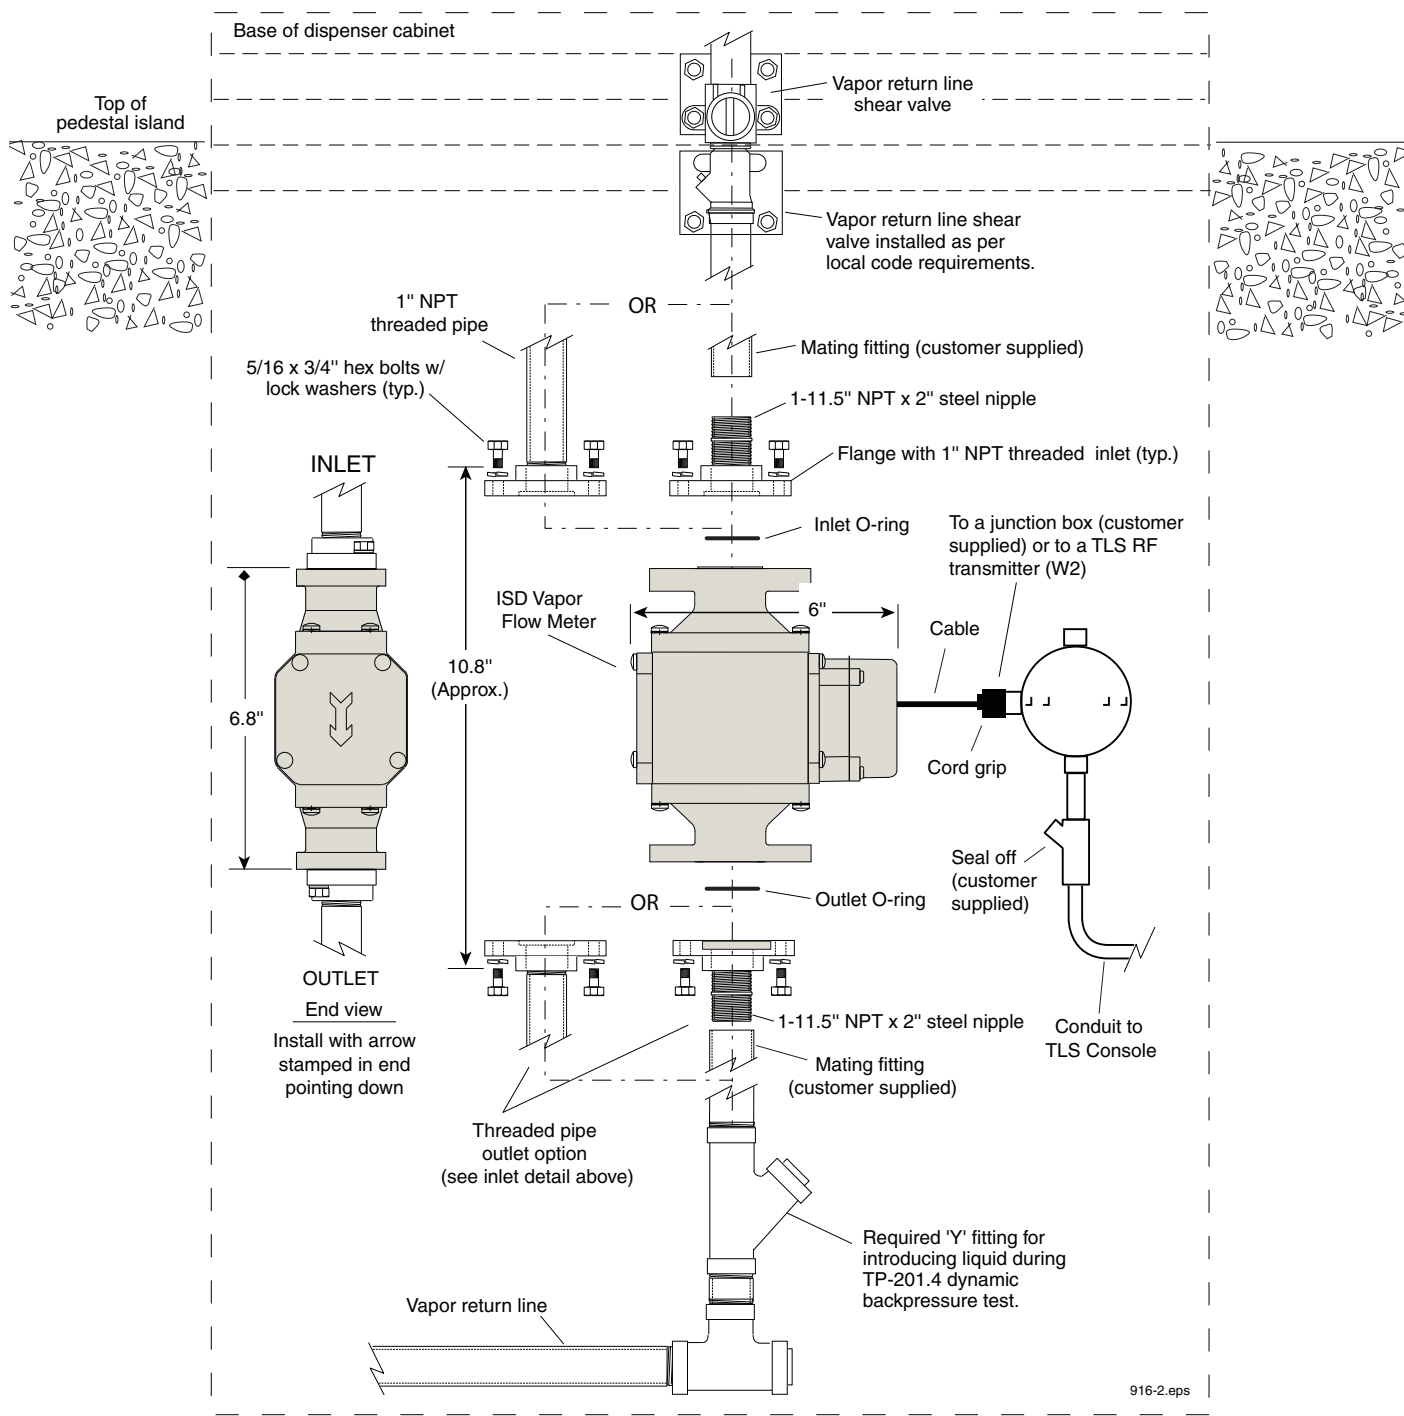

Figure 4. Example Vapor Flow Meter Installation Below Shear Valve
4. Connect the lower flange to the pipe that is connected to the lateral or wye access fitting (see Figure 4).
Note, Satellite Vapor Pipe (Figure 4) arrangement is for situations where it is impractical to connect processor to storage tank vent pipes. It features a high pipe loop to insure that a storage tank overfill should not allow liquid gasoline to be sent to the processor. For this configuration, the storage tank vent pipes still need to be manifolded together and connected to at least one P/V Valve.